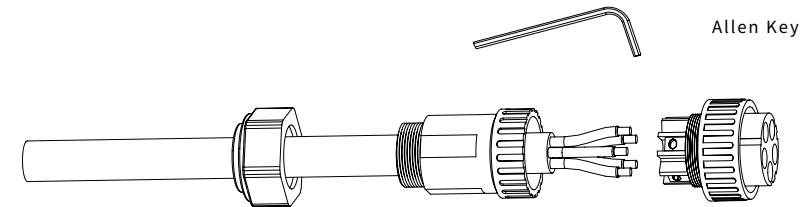

Figure 4-17
③ Insert the stripped end of the five wires into the appropriate hole of the terminal head by following the rules: yellow green wire to PE port, red or brown fire wires to L ports (no requests for the sequence of three fire wires), and blue or black wire to the N port. Please try to pull out the cable to make sure it is well connected. As shown in Figure 4-17: